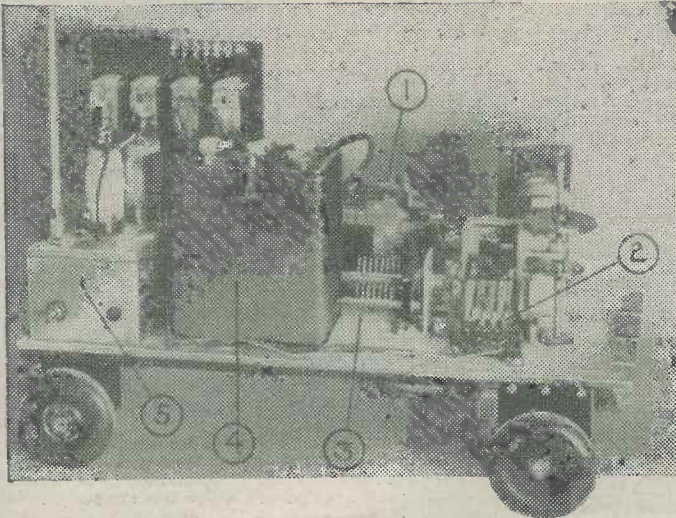

Fig. 1.—General layout of the remote controlled trolley.
Fig. 1 shows the general layout of the trolley which operates on the above carrier wave system. (1) Indicates the driving motor, driven from the 6-volt motorcycle battery (4), this motor being connected through a single series of reduction gears to the rear driving wheels, to the variable tuning condenser (3), and to the output